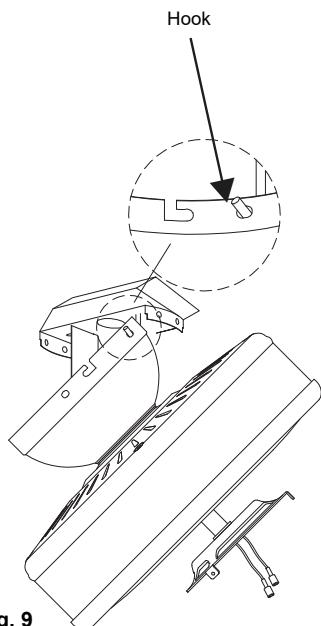

Fig. 9
**Step 6.** Hang the fan on the hook of the hanger bracket. Be certain that the canopy is fully locked into hook as shown in **Fig. 9**. This will allow you to make the electrical connections.